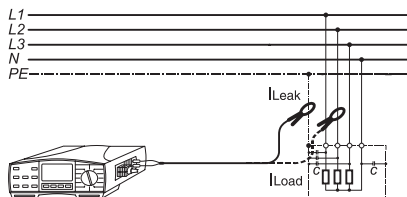

Figure 81: Clamp Adapter Connection for
- ▶ Connect the required clamp adapter to both measurement connectors C1 (14) and C2/P (15), please refer to Figure 81.
- ▶ Switch on the UNITEST EUROtest using the key 'ON/OFF'. Turn the rotary switch 'Measurement Function' to the function (8) "Current".